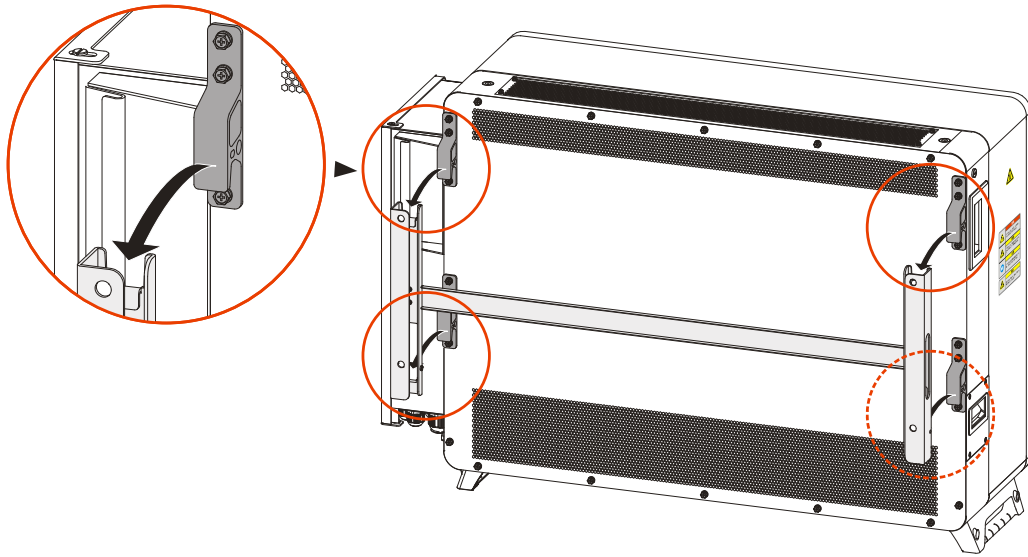

Figure3-24 Hang the inverter onto the installation holder
- Step 6 Lift the inverter to the installation holder, make sure that the mounting ears of the inverter and the groove of the installation holder fit well, and then slowly hang the inverter to the installation holder, as shown in Figure3-24.